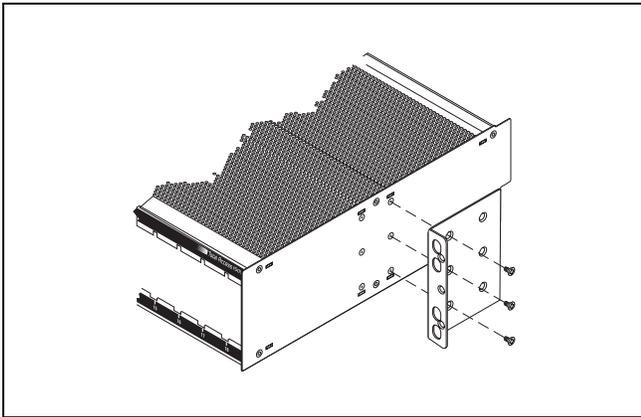

Figure 2. Flush-Mount Bracket Orientation
- Flush-mount: To flush-mount a Total Access 1500 19-Inch Chassis in the rack, use a #2 phillips-head screwdriver and attach the mounting brackets (see Figure 2) with the flanges containing the slotted rack-mounting holes facing the front of the Total Access 1500 19-Inch Chassis. The mounting brackets should be attached using the set of mounting bracket holes closest to the rear of the Total Access 1500 19-Inch Chassis.